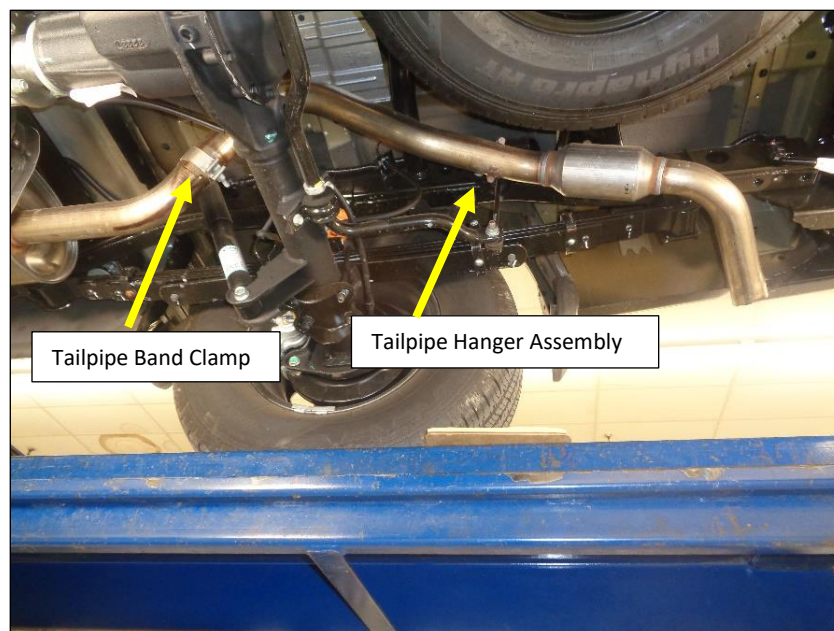

Figure 1
2. Loosen the band clamp on the tailpipe just after the rear axle and apply penetrating oil to the slip joint. **Fig. 1**
3. Remove the (x3) M8 bolts from the tailpipe hanger assembly bolted to the frame just over the axle. **Fig. 1**
4. Remove the rubber tailpipe hanger and remove the tailpipe. **Fig. 1**